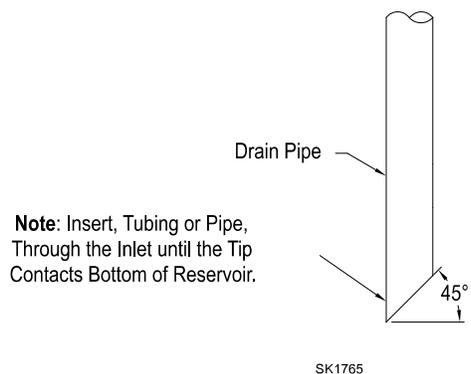

Figure 2.1
- 2.1) To prevent pipe blockage, modify the end of the pipe or tubing as shown in Figure 2.1.